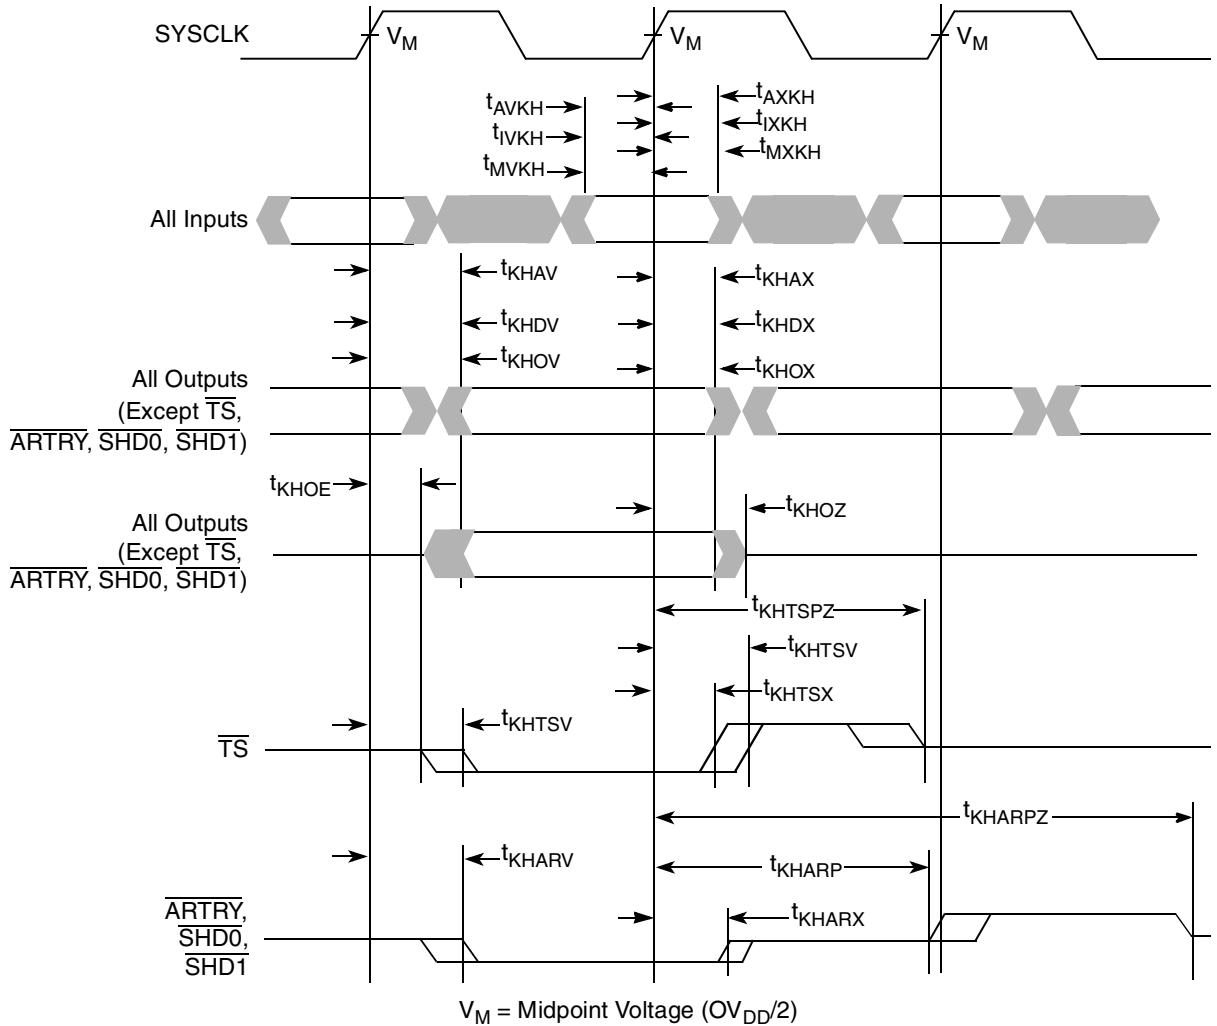

Figure 6. Input/Output Timing Diagram
2. The symbology used for timing specifications herein follows the pattern of $t_{(\text{signal})(\text{state})(\text{reference})(\text{state})}$ for inputs and $t_{(\text{reference})(\text{state})(\text{signal})(\text{state})}$ for outputs. For example, t_{VVKH} symbolizes the time input signals (I) reach the valid state (V) relative to the SYSCLK reference (K) going to the high (H) state or input setup time. And $t_{\text{KH OV}}$ symbolizes the time from SYSCLK(K) going high (H) until outputs (O) are valid (V) or output valid time. Input hold time can be read as the time that the input signal (I) went invalid (X) with respect to the rising clock edge (KH) (note the position of the reference and its state for inputs) and output hold time can be read as the time from the rising edge (KH) until the output went invalid (OX).
4. According to the bus protocol, $\overline{\text{TS}}$ is driven only by the currently active bus master. It is asserted low and precharged high before returning to high impedance, as shown in Figure 6. The nominal precharge width for $\overline{\text{TS}}$ is $0.5 \times t_{\text{SYSCLK}}$, that is, less than the minimum t_{SYSCLK} period, to ensure that another master asserting $\overline{\text{TS}}$ on the following clock will not contend with the precharge. Output valid and output hold timing is tested for the signal asserted. Output valid time is tested for precharge. The high-impedance behavior is guaranteed by design.
6. According to the bus protocol, $\overline{\text{ARTRY}}$ can be driven by multiple bus masters through the clock period immediately following $\overline{\text{AACK}}$. Bus contention is not an issue because any master asserting $\overline{\text{ARTRY}}$ will be driving it low. Any master asserting it low in the first clock following $\overline{\text{AACK}}$ will then go to high impedance for 1 clock before precharging it high during the second cycle after the assertion of $\overline{\text{AACK}}$. The nominal precharge width for $\overline{\text{ARTRY}}$ is $1.0 t_{\text{SYSCLK}}$; that is, it should be high impedance as shown in Figure 6 before the first opportunity for another master to assert $\overline{\text{ARTRY}}$. Output valid and output hold timing is tested for the signal asserted. The high-impedance behavior is guaranteed by design.
Figure 6 provides the input/output timing diagram for the MPC7447A.